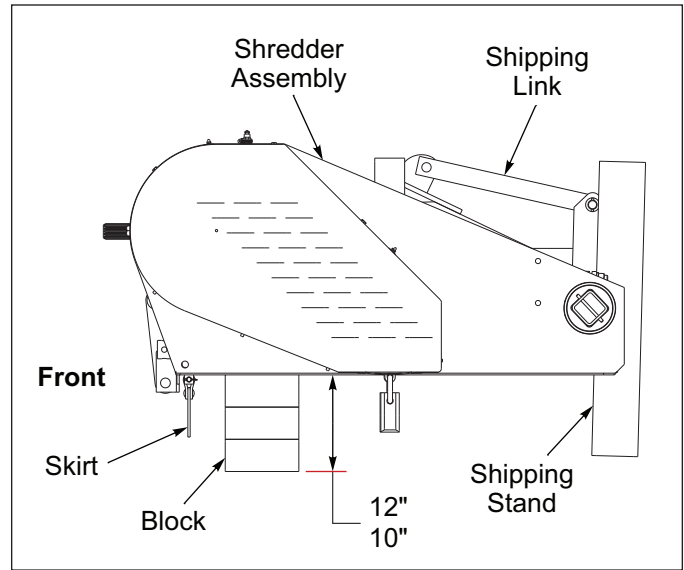

Figure 2-1: Flail Shredder Setup
3. Place the Shredder Assembly down onto 10-12" high blocks at the front end of the hood. The back of the Shredder should be resting on the end of the shipping stands. **See Figure 2-1.**